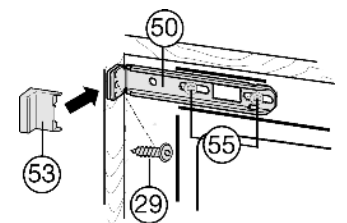

Fig. 19
- ▶ Slightly loosen the screws Fig. 19 (55).
- ▶ Secure the top mounting bracket Fig. 19 (50) to the unit wall with a ø4x19 chipboard screw Fig. 19 (29).
- ▶ Break off the protruding end of the cover Fig. 19 (53).
- ▶ Tighten the screws Fig. 19 (55).
- ▶ Place the cover Fig. 19 (53) in position.